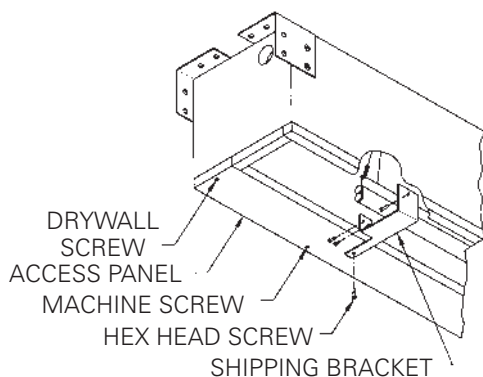

FIGURE 1
3. Carefully remove three shipping brackets by removing six hex head screws from case and six hex head screws from aluminum slat. Use a hex socket and a ratchet. Slat should move freely (Fig. 1).
4. Detach access panel by removing screws (Fig. 1).